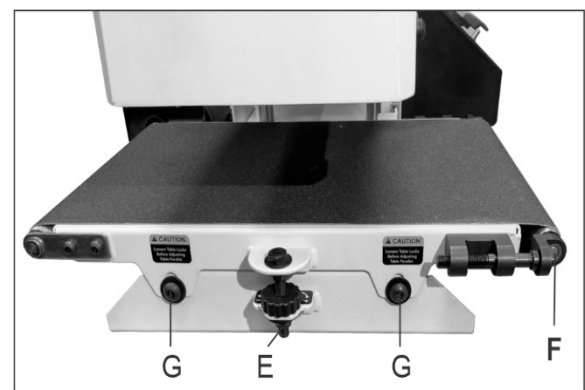

Figure 9-3
3. Turn take-up screws (F, Figure 9-3) on both sides of conveyor to relieve belt tension and slide the driven roller fully inward.
4. Loosen two table locking screws (G, Figure 9-3).
5. Remove lock nut (E, Figure 9-3).